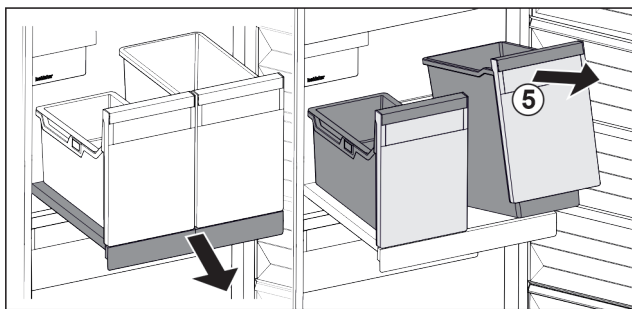

Fig. 18
- Lift the container Fig. 18 (5) at the front.